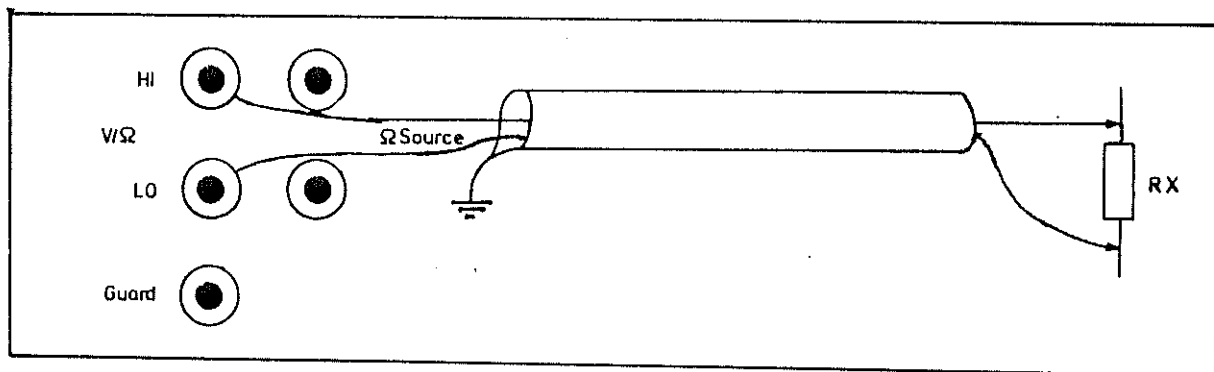

Fig. 6.2.1: Two-wire resistance measurement
The measuring configuration of Fig. 6.2.1 gives acceptable readings only within a resistance range which is restricted by an upper and lower limit. Leakage current problems arise with large resistance values, due to the parallel connection of R_x and the cable insulation resistance. With low resistances, particularly in the 100 Ohm range, the series resistance of the connecting leads causes an appreciable error. A four-wire measuring configuration is recommended for these ranges.
The currents which flow through the measured resistance in the respective ranges of both DMM 6048 and 6047 are shown in chapter 2.2. The polarity of the current flowing through Rx has been chosen such that the end of Rx which is connected to the upper socket of the "Ohm-Source" output has a negative potential with respect to the other end of Rx. Always make sure that the end of the resistance Rx which is connected to the upper (HI) socket of the "Ohm-Source" output is also connected to the upper (HI) socket of the "V/kOhm" input (see Fig. 6.2.1 to 6.2.3). The analogous rule holds for the lower sockets.